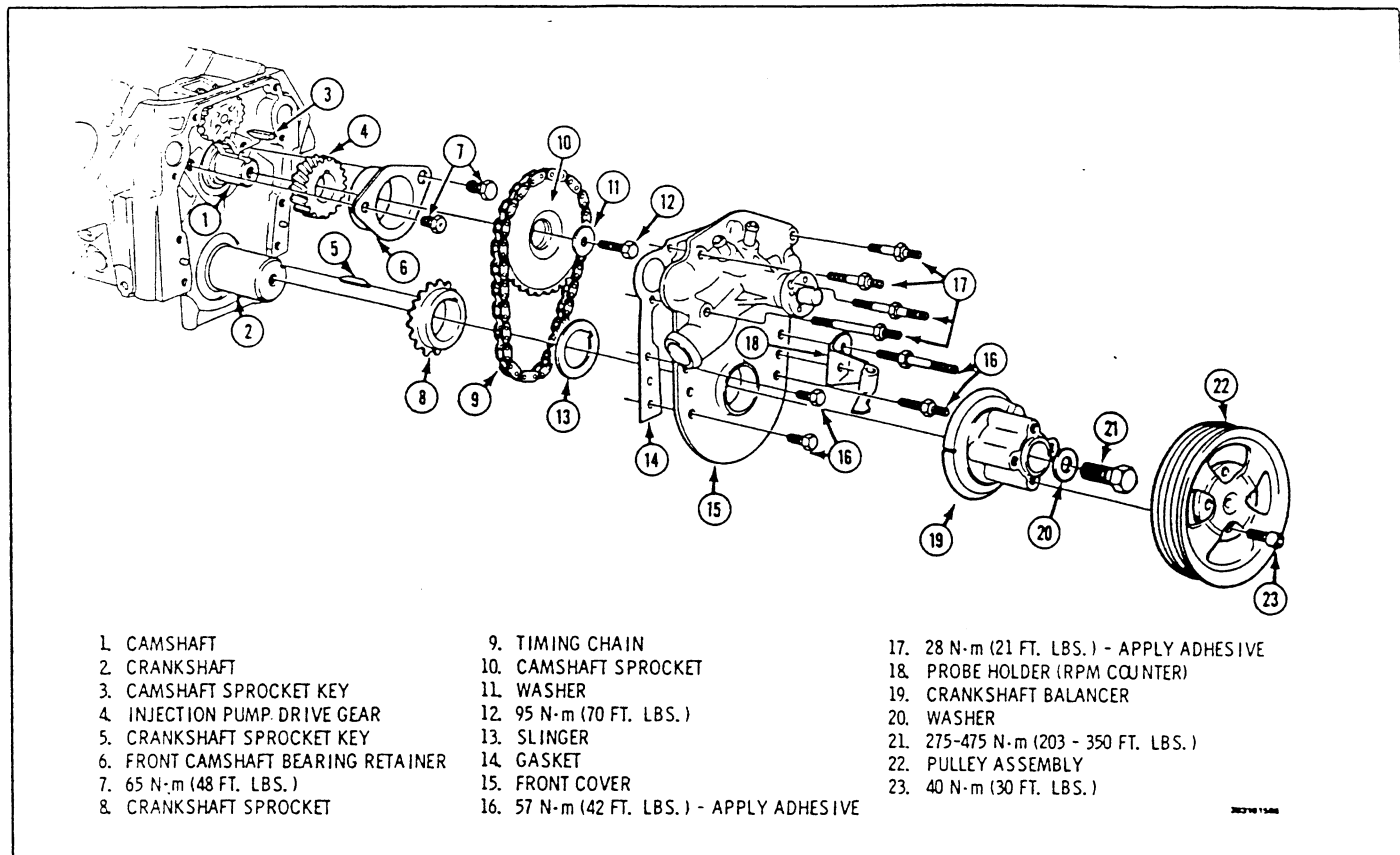

Fig. 38 Front End of Engine
Fig. 38 and 39
Fig. 38 through 44
7. Apply 1052624 primer and adhesive kit or equivalent to front cover bolt threads (#16 and 17, Fig. 38).
11. Probe holder and all front cover to block bolts. Torque bolts (Fig. 38).